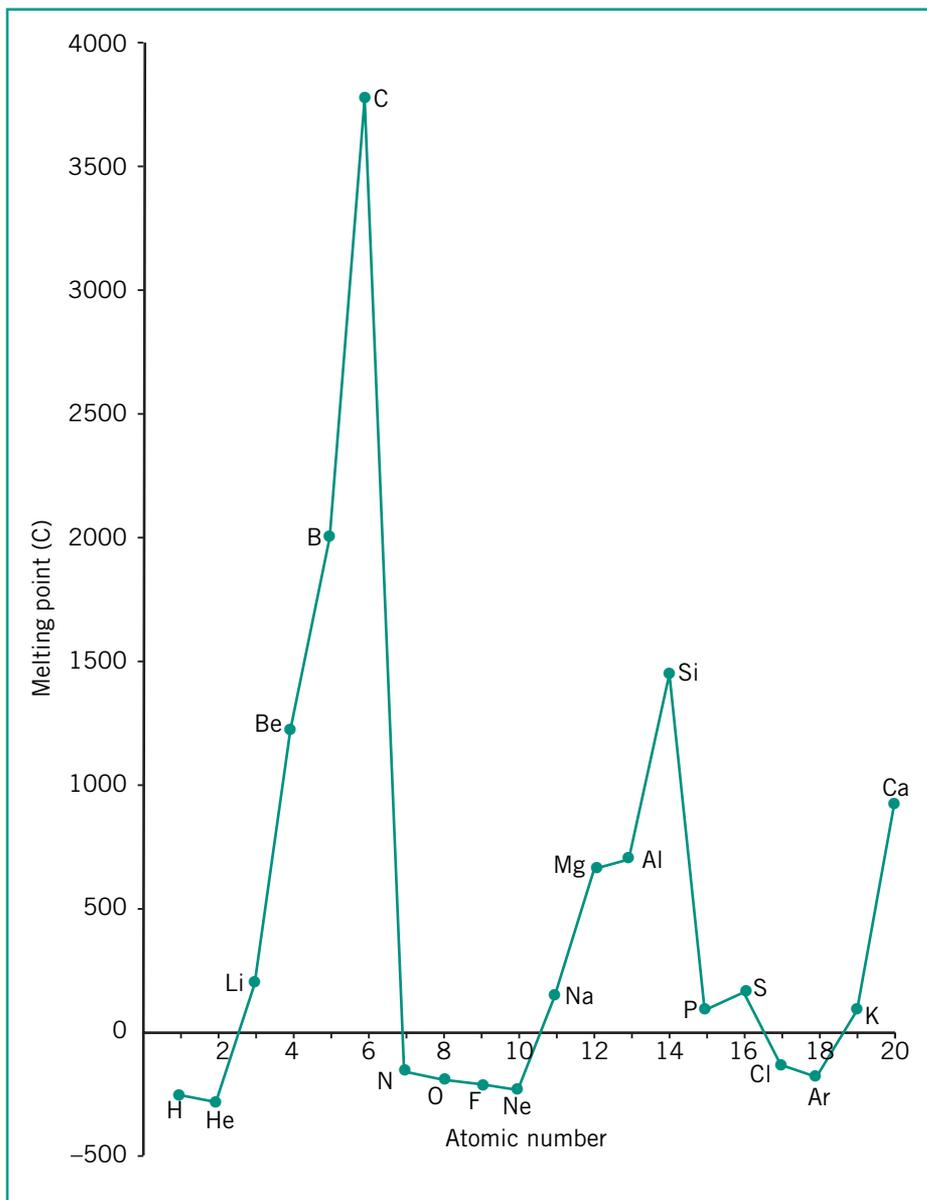

Figure 8.17 Melting points of the first 20 elements
- The melting points and boiling points generally rise to the elements in group IV and then decrease (Figure 8.17).
- Relate** the trends in bonding of the elements to the melting points shown in Figure 8.17.